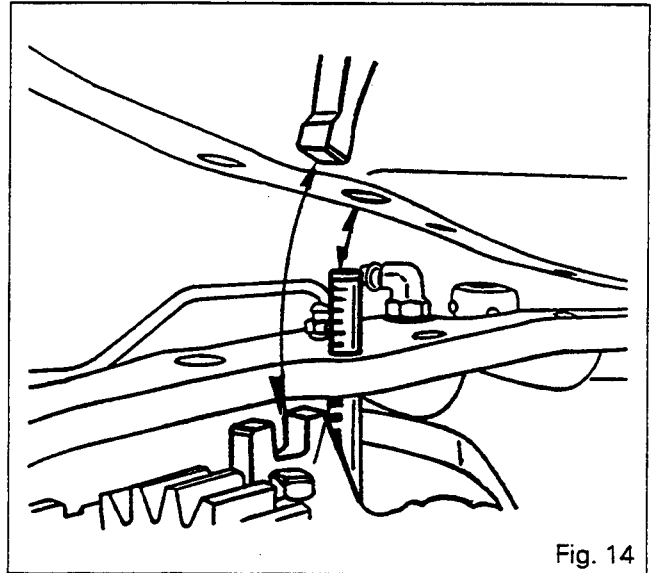

Fig. 14
**Note : When refitting the cover, ensure that the supply pipe of the differential lock and the control finger (4-speed economy PTO) engage properly in their respective positions (Fig. 14).**
56. Mount the support for the PTO control cable (depending on the version) and fit the bolts (24) of the cover (10). Tighten to the following torque :